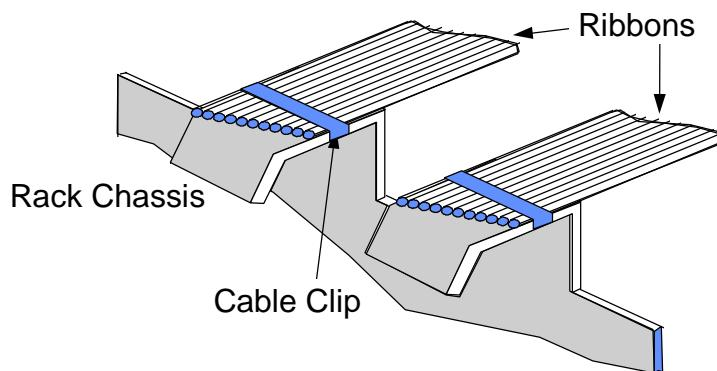
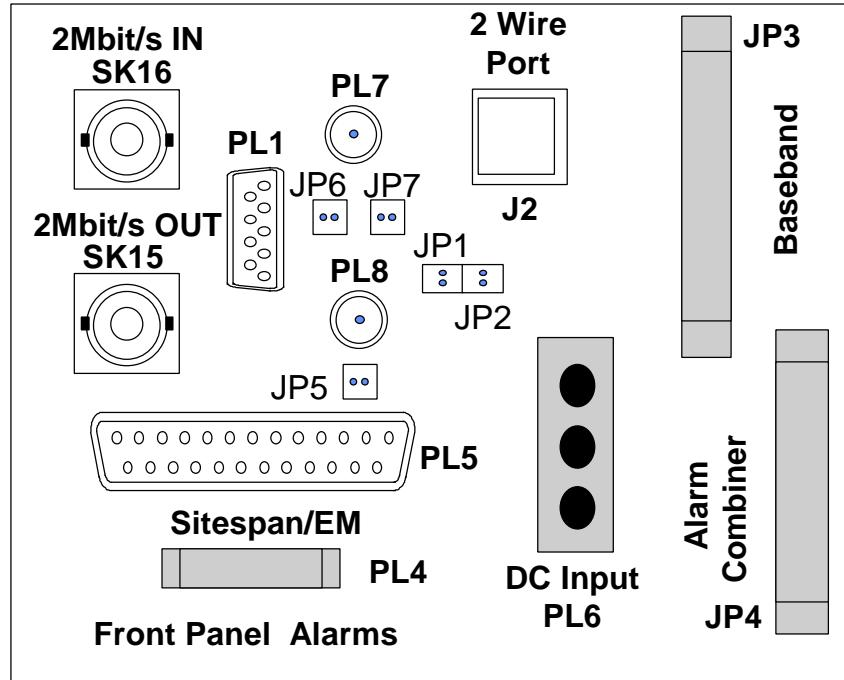
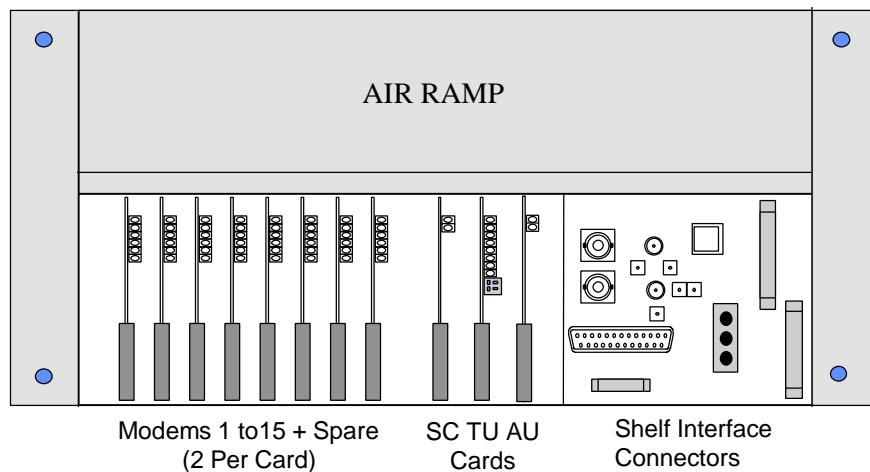

Figure 1-6. Securing Ribbon Cables
Figure 1-8. Shelf Interface Connections.
Figure 1-10. Modem Shelf
- g) Remove ribbons to JP3 and JP4. See Figure 1-6
- i) Remove the 2Mbit/s IN (SK16 - BNC or PL7 - Type 43) and 2Mbit/s OUT (SK15 - BNC or PL8 - Type 43) connectors on the shelf interface connections located at the right hand side of each modem shelf. See Figure 1-8 and Figure 1-10.
c) Connect ribbons to JP3 and JP4. See Figure 1-8 and clip ribbons to the chassis as shown in Figure 1-6.